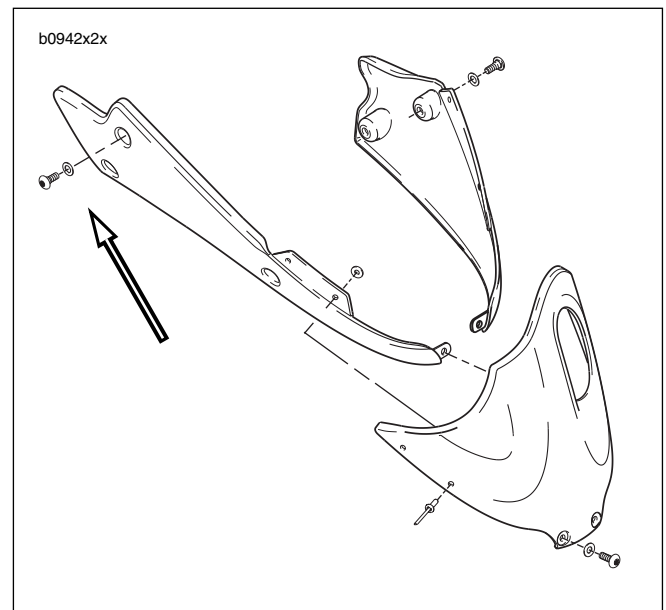

Figure 2-113. Chin Fairing Assembly, Right Rear Fasteners
1. See Figure 2-113. Remove back right chin fairing fasteners.